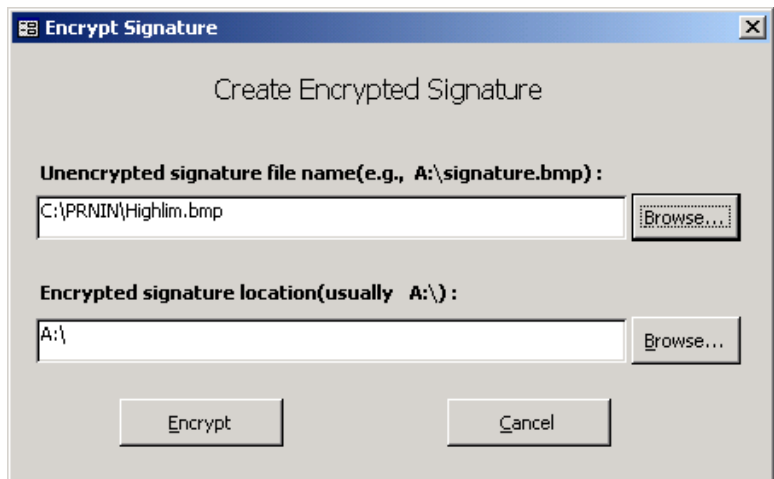

Figure 5-16
4. In the Encrypt Signature dialog box (Figure 5-16):
6. Click the **Payor** tab (Figure 5-16).